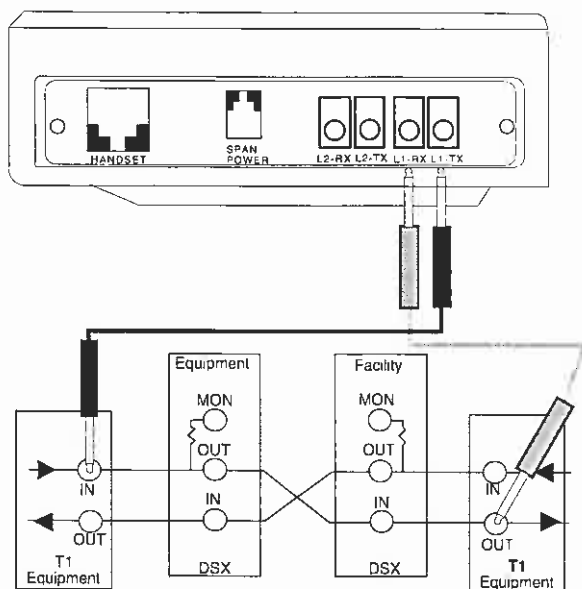

Figure 100 Checking DSX Wiring
5. Connect the test set to the circuit as shown in Figure 100, Checking DSX Wiring. You may use one test set as shown in the diagram, or two test sets if the two pieces of equipment are not reasonably close together. You will need to find a point on either side of the DSX where you can plug in the test set. This point could be at test jacks on the network equipment on either side of the DSX. You will need to make sure that you have opened the circuit at each point so that the test set is not bridge-tapped onto the existing circuit.